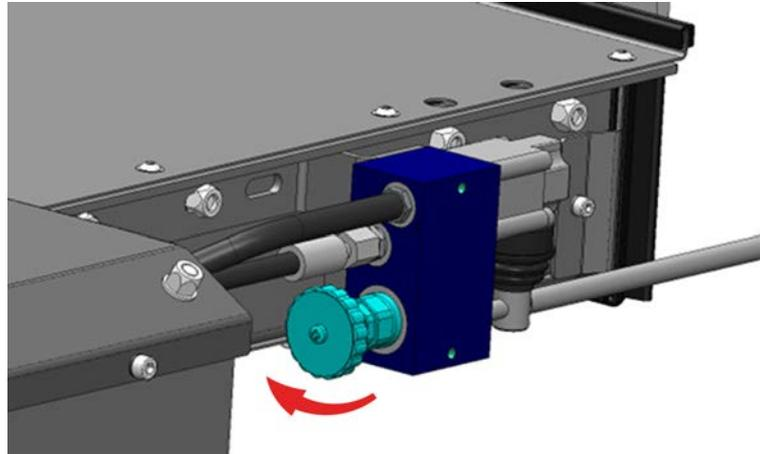

Figure 34: Closing the Pressure Release Valve
- ⇒ Close the pressure release valve, by turning the hand-wheel to the right, as soon as the platform has lowered the desired height (see Figure 34).